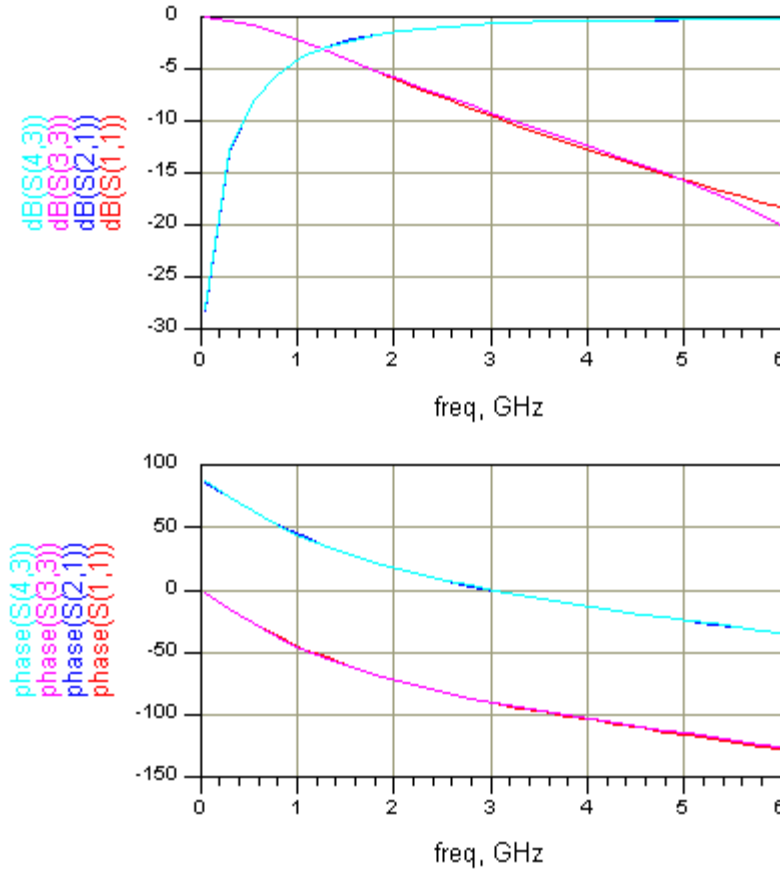

Figure 7. Comparison between measured data (S11, S21) and the optimized model circuit (S33, S43).
- v) In the data display window you should now see only one trace for each scattering parameter. If you have followed the procedure closely, you should see a very good match between the measured scattering parameters and those of the new, optimized model circuit (see Figure 7).